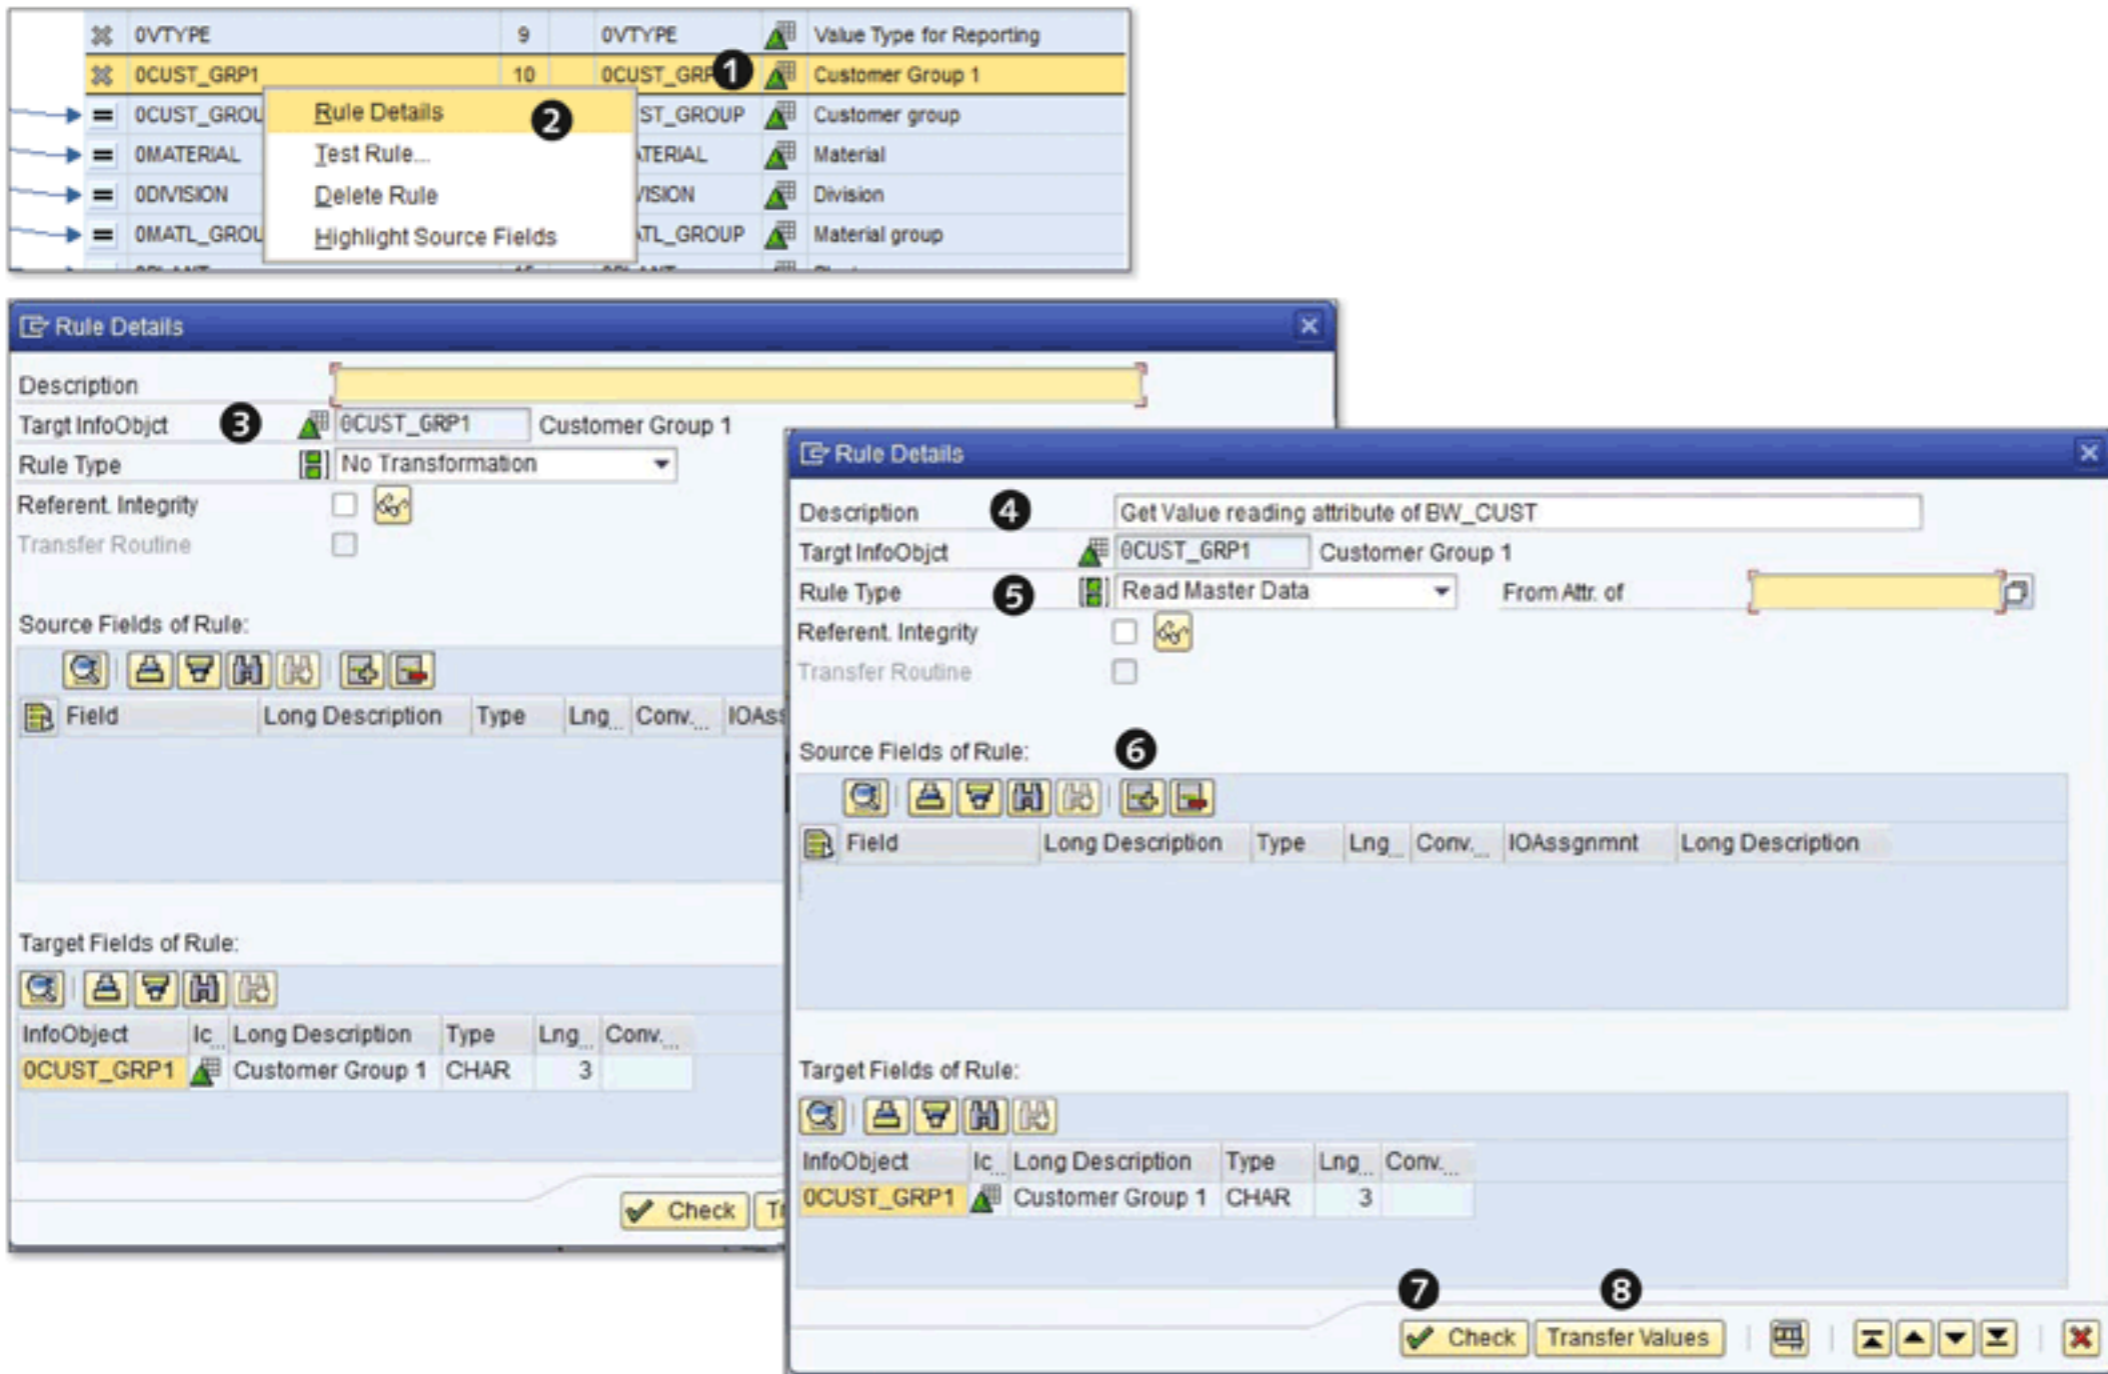

Figure 7.59 Read Master Data Transformation: Part 1
To configure this, select InfoObject 0CUST_GRP1 (❶ of Figure 7.59), and, from the context menu, select RULE DETAILS (❷). A pop-up box for RULE DETAILS appears that shows the details of the target InfoObject (❸); provide a description for the rule (❹). Now select READ MASTER DATA from the RULE TYPE dropdown list (❺), and instruct the transformation to read the attribute of InfoObject BW_CUST by clicking on the icon shown in ❻.
You can check your transformation by clicking on the icon shown earlier in 7 of Figure 7.59, and then click on TRANSFER VALUES (8 of Figure 7.59) to transfer the rule changes for target InfoObject OCUST_GRP1 to your transformation.